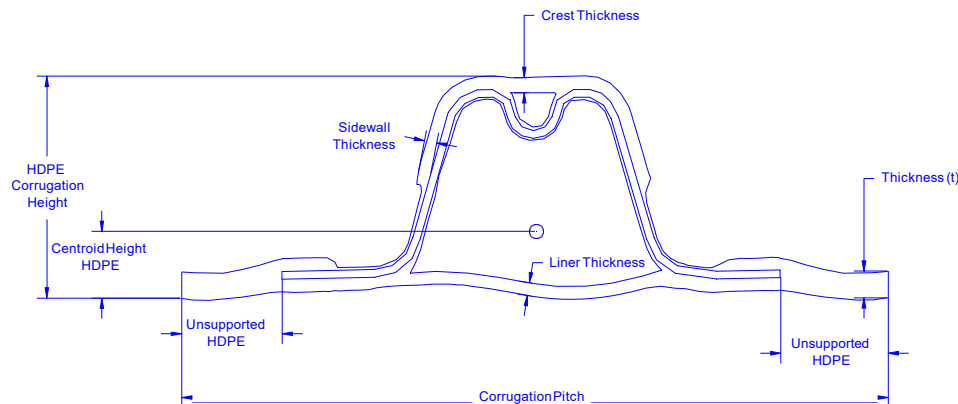

Figure 4. CAD drawing of Kanaflex HDPE wave-form over 1 period of pipe profile.
A CAD drawing of the HDPE wave-form is shown in Figure 4. From a structural viewpoint, the key geometric properties of the wave-form are the area of HDPE material per period and the moment of inertia per period along with wave height and centroid location.
The length and average thickness of the HDPE valley element that is not supported with steel embedment. Specifically, the values of L and t are used to determine the longitudinal tensile strain in the HDPE valley element. For the example shown in Figure 4 above the length (L) is the sum of the unsupported HDPE on the left and right and the nominal-average thickness (t) of unsupported valley element is the average thickness of the unsupported HDPE. As discussed next, the unsupported portion of the valley element gives rise to a new design criterion for the Kanaflex pipe.